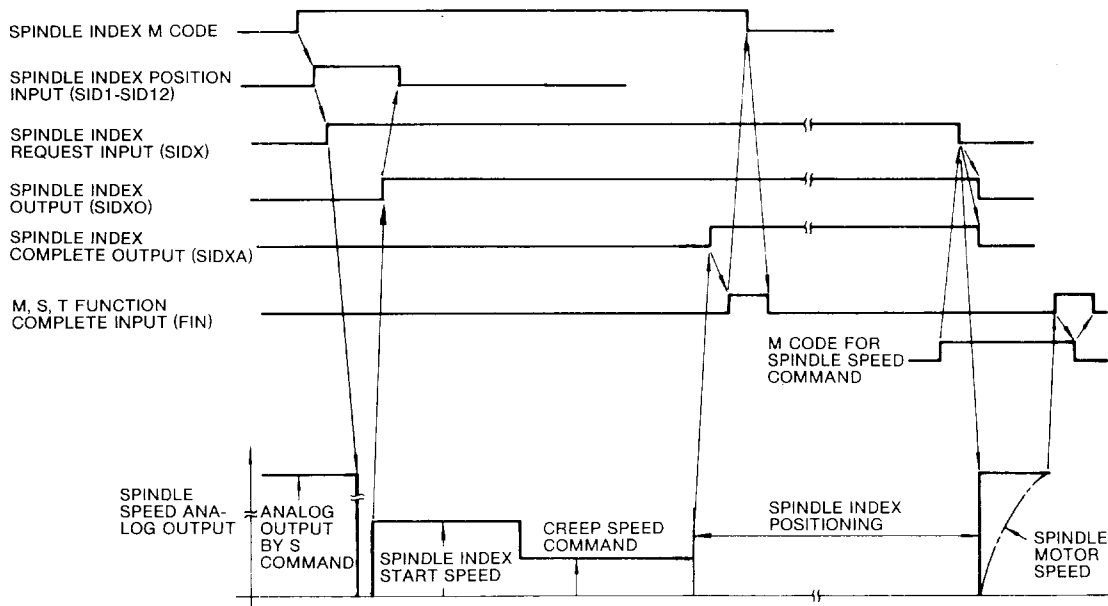

Fig. 18.17
- Spindle index by M code at spindle forward operation (Spindle positioning is continued until next spindle speed command after spindle index is completed.) See Fig. 18.17.